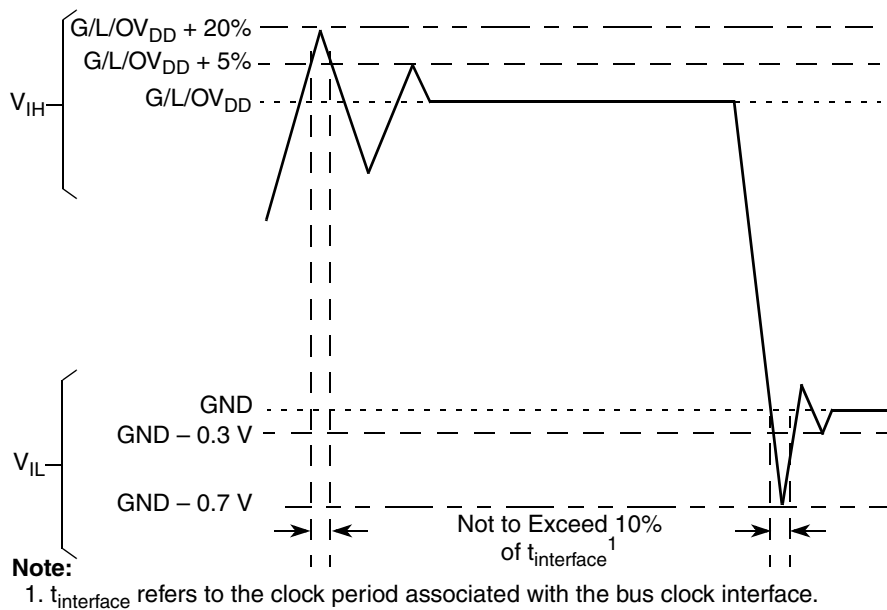

Figure 2. Overshoot/Undershoot Voltage for $GV_{DD}/OV_{DD}/LV_{DD}$
- ⁵ (M,L,O) V_{IN} and MV_{REF} may overshoot/undershoot to a voltage and for a maximum duration as shown in Figure 2.
Figure 2 shows the undershoot and overshoot voltages at the interfaces of the MPC8349EA.